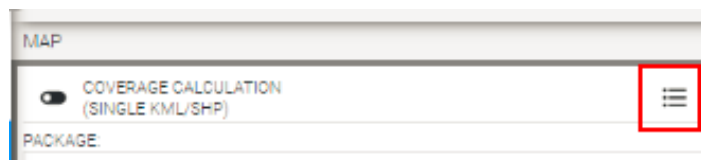
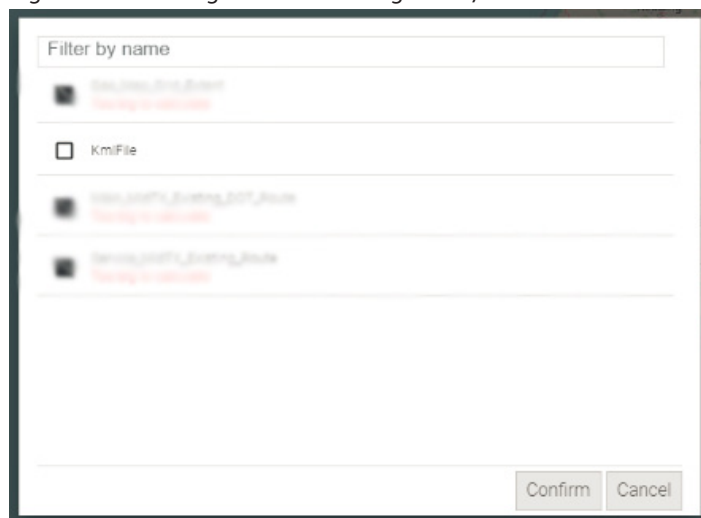

Figure 112 Coverage Calculation Single KML/SHP Menu Icon
Figure 113 Coverage Calculation Selection
- b Click the Coverage Calculation Single KML/SHP menu icon (see Figure 112). The screen shown in Figure 113 appears.
- b Click the **Coverage Calculation Single KML/SHP** menu icon (see Figure 112).